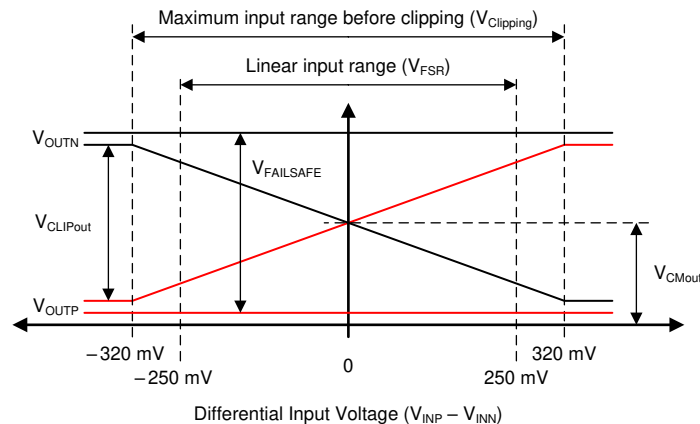

图 6-2. Output Behavior of the AMC3301
The AMC3301 offers a differential analog output comprised of the OUTP and OUTN pins. For differential input voltages ($V_{INP} - V_{INN}$) in the range from -250 mV to $+250\text{ mV}$, the device provides a linear response with a nominal gain of 8.2. For example, for a differential input voltage of 250 mV , the differential output voltage ($V_{OUTP} - V_{OUTN}$) is 2.05 V . At zero input (INP shorted to INN), both pins output the same common-mode output voltage V_{CMout} , as specified in the Electrical Characteristics table. For absolute differential input voltages greater than 250 mV but less than 320 mV , the differential output voltage continues to increase in magnitude but with reduced linearity performance. The outputs saturate at a differential output voltage of $V_{CLIPout}$ as shown in 图 6-2 if the differential input voltage exceeds the $V_{Clipping}$ value.
The AMC3301 provides a fail-safe output that simplifies diagnostics on system level. 图 6-2 shows the fail-safe mode, in which the AMC3301 outputs a negative differential output voltage that does not occur under normal operating conditions. The fail-safe output is active in two cases:
- The low-side does not receive data from the high-side (for example, because of a loss of power on the high side). In this case, the amplifier outputs are driven to the V_{FAILSAFE} value that is shown in 图 6-2.
- The high-side DC/DC output voltage (DCDC_OUT) or the high-side LDO output voltage (HLDO_OUT) drop below their respective undervoltage detection thresholds (brown-out). In this case, the low-side may still receive data from the high-side but the data may not be valid. The amplifier outputs are driven to the V_{FAILSAFE} value that is shown in 图 6-2.